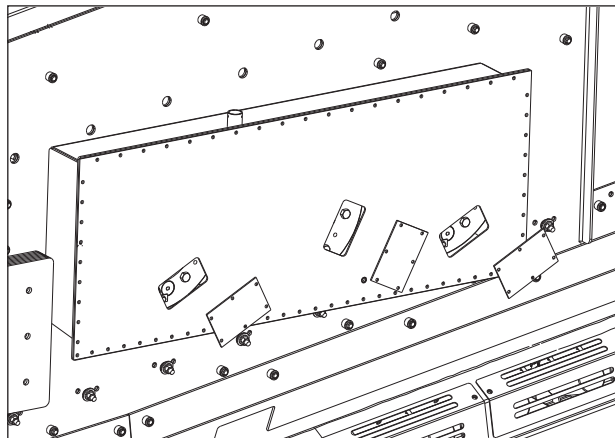

Figure 9.56 - Inspection Plates Removed
3. Remove inspection plates on remaining two gear-side and three impulse-side weight discs, Ref: Figure 9.56.